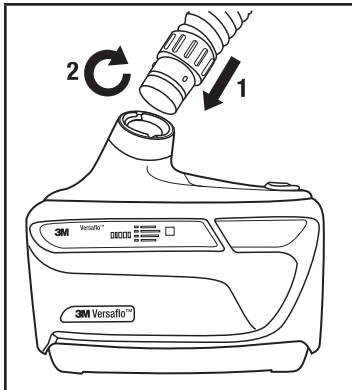

Fig. 13 - Installing breathing tube
1. Insert the end of the breathing tube with the bayonet fitting (two small prongs) into the parallel slots in the air outlet of the motor/blower (Fig. 13).